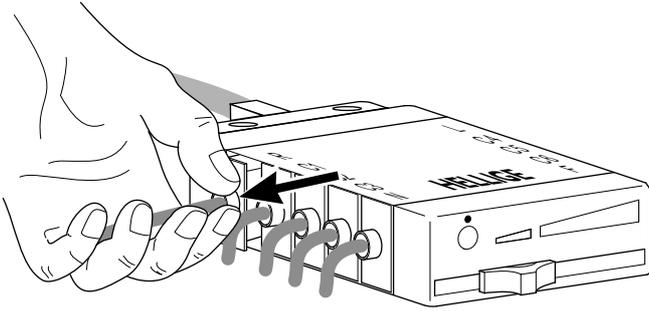

Figure 5-1. Replacing an electrode lead
- \* Remove the damaged lead from the electrode distributor, grasping the lead directly at the connection (Figure 5-1).
Always hold the connector as shown in Figure 5-1. Do not force the connector into the socket and take care that it is properly inserted. Otherwise there may be problems with the tightness of the system and with the necessary contacts. Also take care to insert the leads in the correct sockets, observing the lead designations printed on the distributor housing.